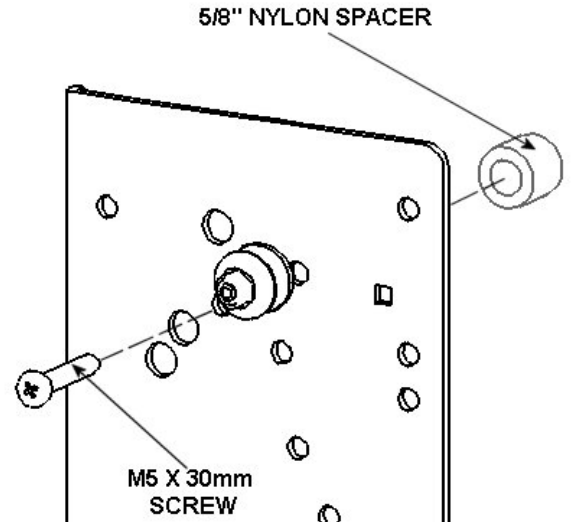
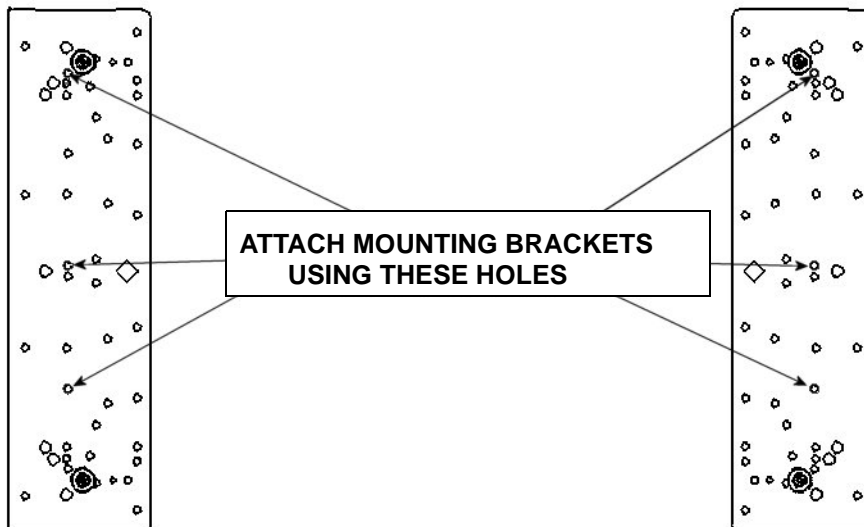

Figure 10. Spacer Installation for Group 4
Figure 12. Bracket Attachment for Group 4
5. Place the interface brackets over the Nylon spacers (see Figure 10 and Figure 12).
7. Using the hardware in the parts bag labeled D, attach the interface brackets to your display in the proper holes in each interface bracket (See Figure 10 and Figure 12). Do not overtighten the mounting screws.